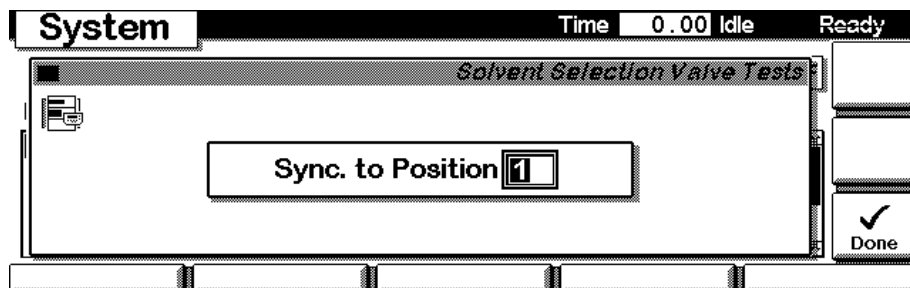

Figure 8 Valve Synchronization
- 2 Select **Tests (F3)** and **Valve** to open the Synchronization screen as displayed in Figure 8.